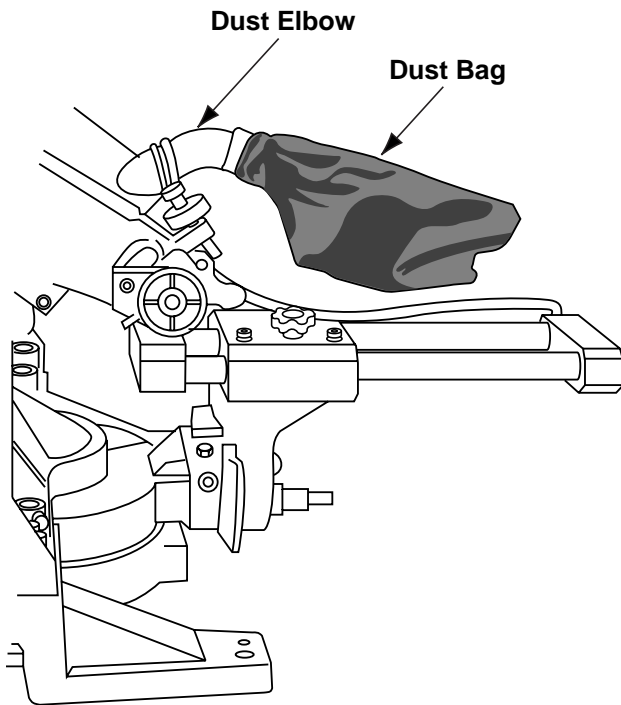

Figure 4. Dust Bag and Elbow
1. With the miter arm locked in the down position, push the dust elbow onto the dust nozzle. Rotate elbow to the desired position. (Figure 4).